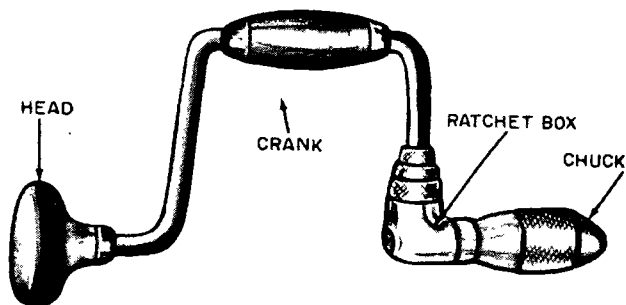

Figure 16. The brace.
a. Brace, Ratchet Type. The brace (fig. 16) is used to turn auger bits, expansive bits, countersinks, or screwdriver bits which are shown in figure 17. The brace consists of a head, a crank, a ratchet box, and a chuck. The head is fastened to the crank by a bearing which permits the crank to turn. The ratchet box controls whether the chuck turns or not when the crank is turned. Figure 18 illustrates the right and wrong way to bore through a board.